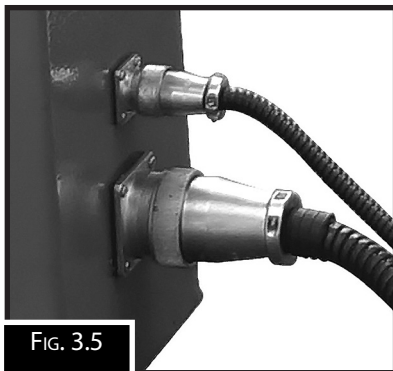

FIG. 3.5
- Connect the roving foot pedal to the machine by inserting the two control cables and locked in by screwing the securing cap on to the plug. (Fig. 3.5)